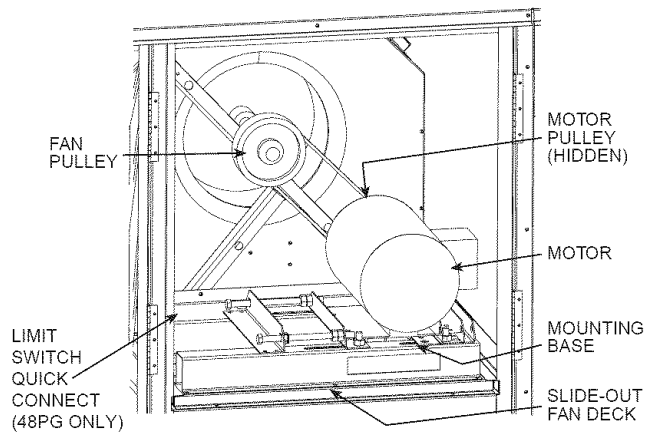

Fig. 38 — Evaporator-Fan Motor Adjustment
- Remove three no. 10 screws at front of slide-out fan deck. Save screws. See Fig. 38.
Evaporator Fan Performance Adjustment (Fig. 38 and 39) — Fan motor pulleys are factory set for speed shown in Table 57.
4. Move motor mounting plate to adjust to proper belt tension. See Table 57. Motor adjuster bolts may be used to tighten belts. See Fig. 38.